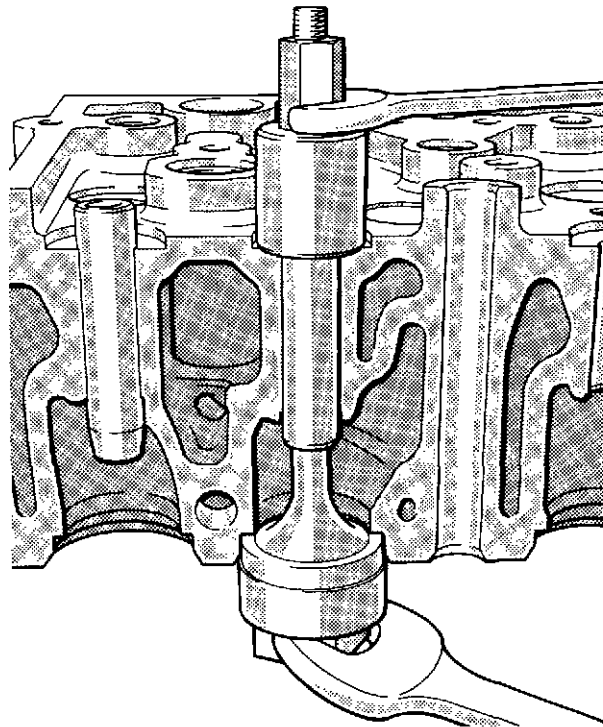

Fig. 7 Fitting insert with guide in position
- 42 The inserts should be chilled in liquid air immediately prior to fitting in the cylinder head. If this is not possible, the cylinder head must be heated in boiling water for a minimum of thirty minutes, after which the insert should be drawn into position as quickly as possible, using the valve seat Insertion Tool, VT 12803, for inlet or, VT 12804, for exhaust valves (fig. 7).